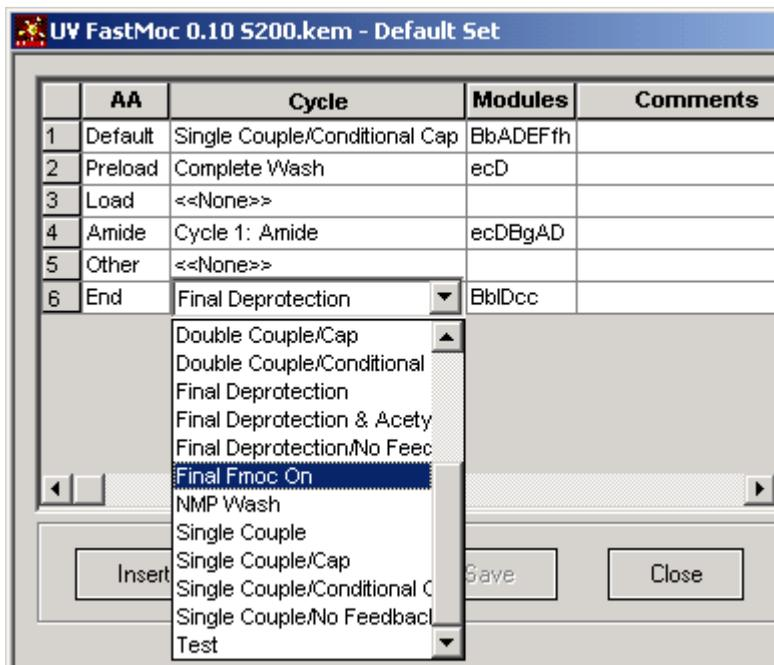

Figure 7-22 Selecting a new Default Cycle
2. In the drop-down list of cycles, select the desired cycle (Figure 7-22).